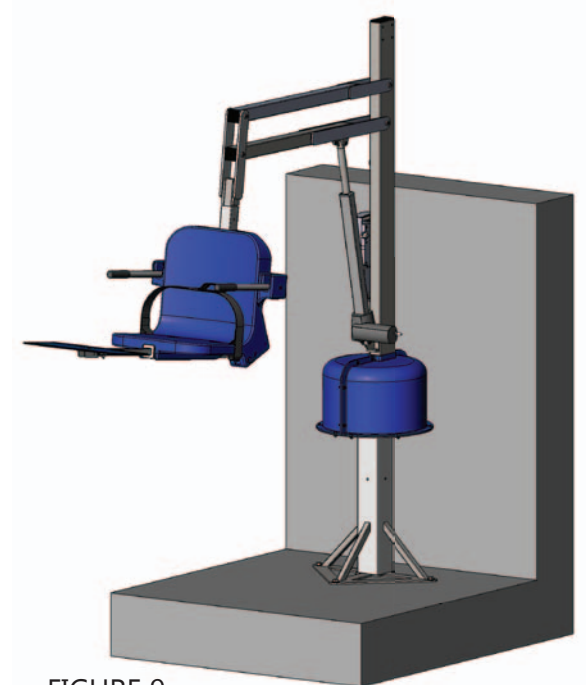

FIGURE 9
8. The Spa Lift Ultra is now assembled and ready for use! Be sure the battery is fully charged. FIGURE 9 shows completed assembly mounted on a spa deck.